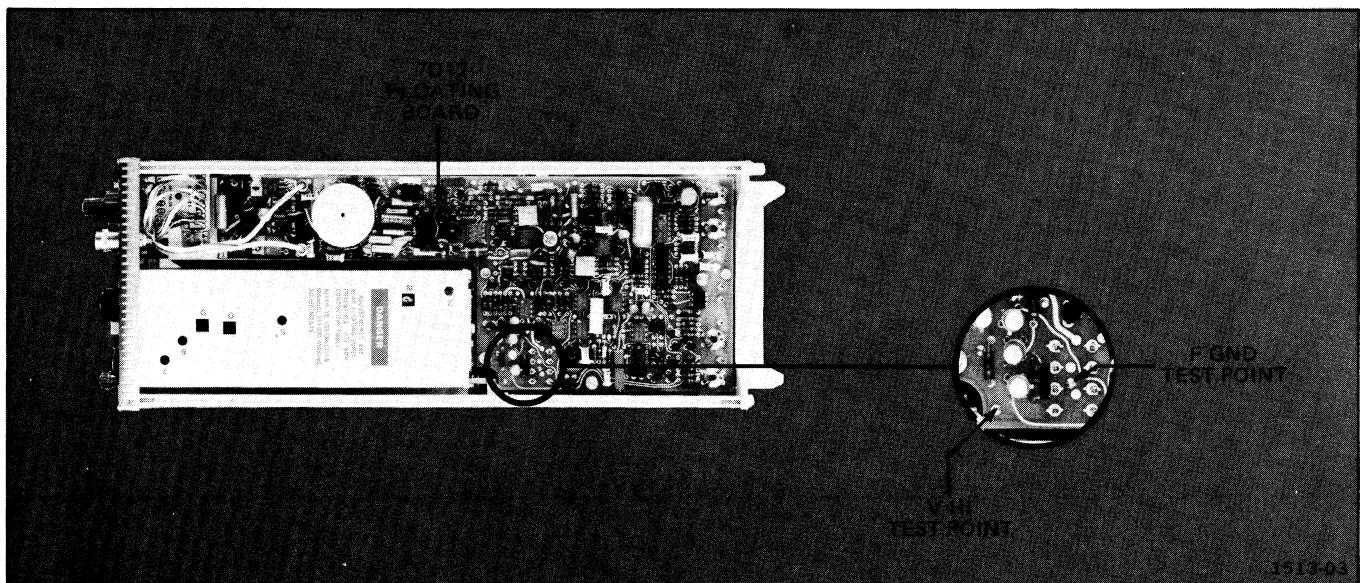

Fig. 4-1. Partial view of 7D12 floating board (A2).
- b. Connect precision dc voltmeter plus lead to M3 test point, TP35. Connect minus lead to 7D12 floating ground (F GND) test point (see Fig. 4-1).
- a. Move precision dc voltmeter plus lead to 7D12 test point, V HI (refer to Fig. 4-1).